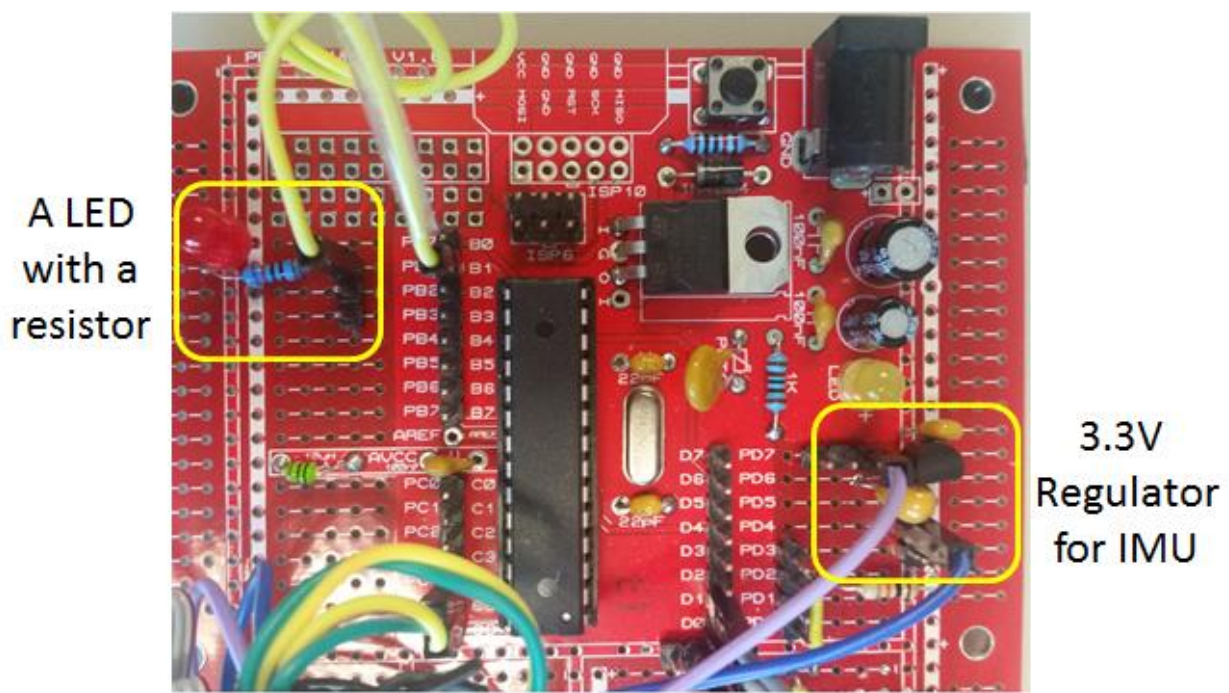

Figure 4 An example of soldered board (the 3.3V regulator can be done in HLAB09).
- The final soldered board will look like Figure 4 shown below.